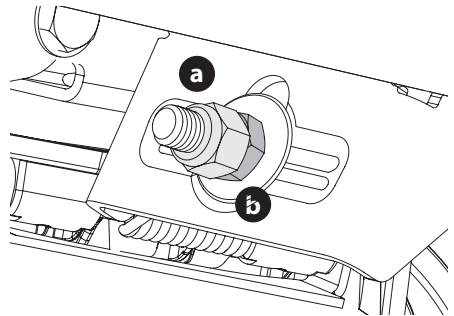

Figure 36
5. To raise the front of the deck, remove the end cap, loosen the outer jam nut (a) then tighten (thread inward) the inner nut (b) against the front hanger bracket. When proper adjustment is achieved, re-tighten the outer jam nut (a) and replace the end cap (Figure 36).